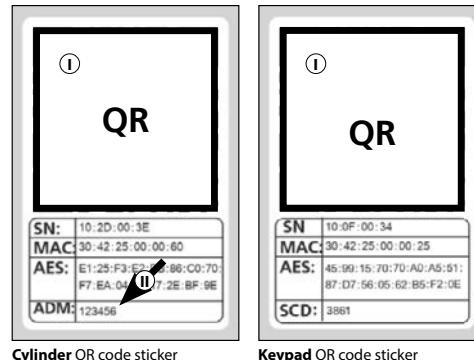

Fig. 1
The sets are delivered from the factory with a random administrator code (II) (Fig. 1), consequently a code change is not mandatory.